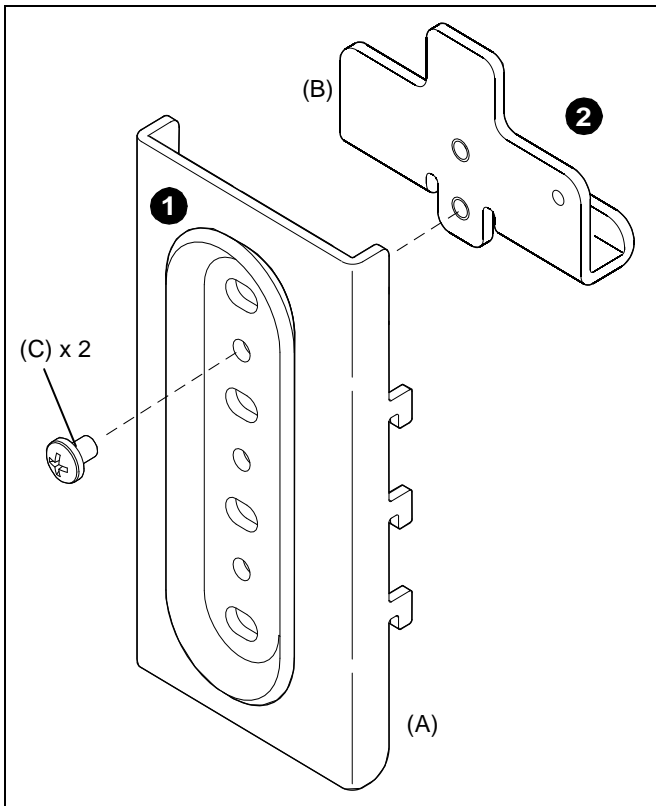

Figure 1
2. Orient wall bracket (A) (Tabs facing DOWN). (See Figure 1)
3. Loosely install mount wall bracket (included with mount) and holding bracket (B) to wall bracket (A) using one 10-24 x 1/2" Phillips pan head screw (C). (See Figure 1)
5. Push wall bracket (A) downward until tabs are fully seated in slots making sure holding bracket (b) is inserted into slot.
6. Raise holding bracket (B) upward until fully engaged with extrusion.